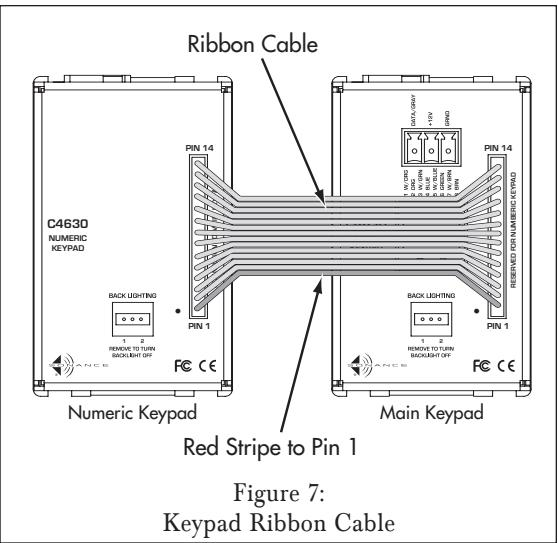

Figure 7:
- Connect the ribbon cable so that the wire with the red stripe connects to Pin 1 on both keypads (see Figure 7).